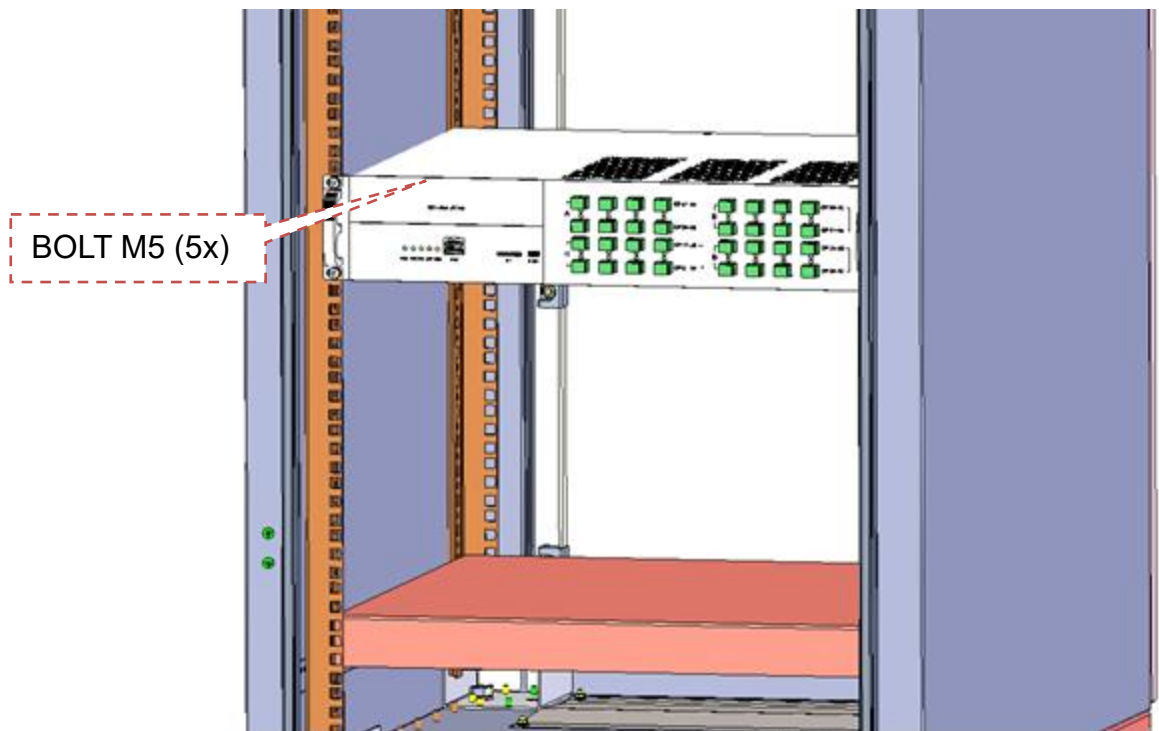

**Figure 4-6** Drill holes and Install the Mounting rack on wall
1. Install bracket on the cabinet with the screw. as shown in Figure 4-5. Attention: Please pay attention to mounting of bracket. as shown in Figure 4-6.